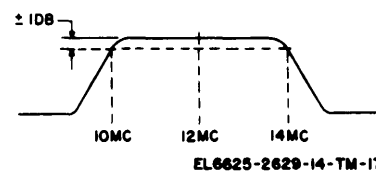

Figure 7-10. Limiter response curve.
e. If the response does not resemble closely that shown in figure 7-10, adjust trimmers of T7 first, and work toward the integrated circuit, U1.